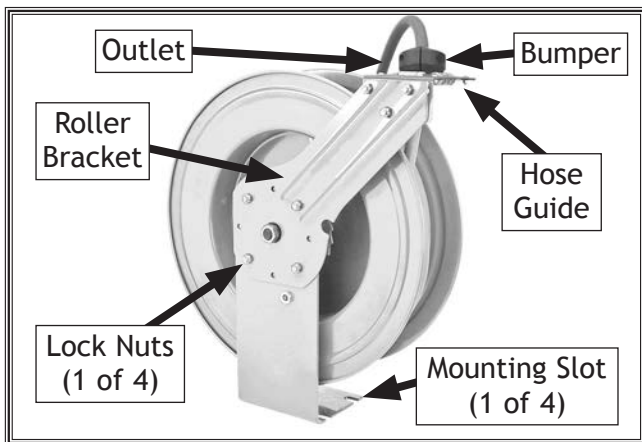

Figure 2. Roller bracket and main components.
2. Check that the hose guide roller bracket position (see **Figure 2**) is suitable for the chosen mounting position.
3. Mark the location of the mounting slots on the reel base (see **Figure 2**) in the chosen location, then secure with (4) 7/16" grade 5 fasteners.
8. To adjust the hose bumper (see **Figure 2**), pull some hose out until it clicks in place, loosen the screws on the bumper, slide it close to the hose guide, then tighten the screws.
2. Remove (4) lock nuts and carriage bolts on the roller bracket (see **Figure 2**), rotate the bracket to any of the alternate positions, then re-install the carriage bolts and lock nuts.